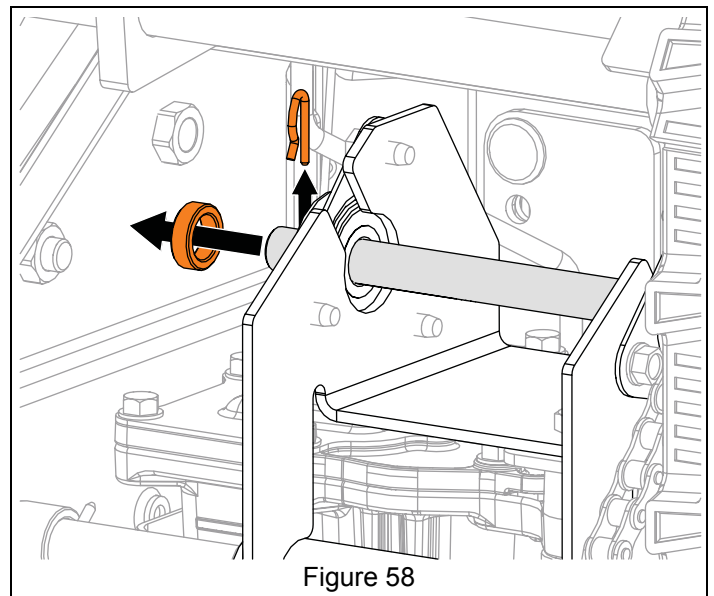

Figure 58
4. Remove spring clip and sleeve bushing from reduction shaft end. See Figure 58.